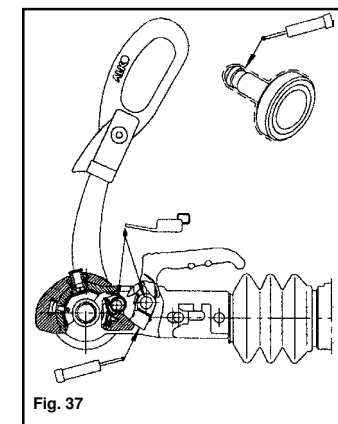

Fig. 37
- b) Areas may only be covered with a thin film of grease (Fig. 37).